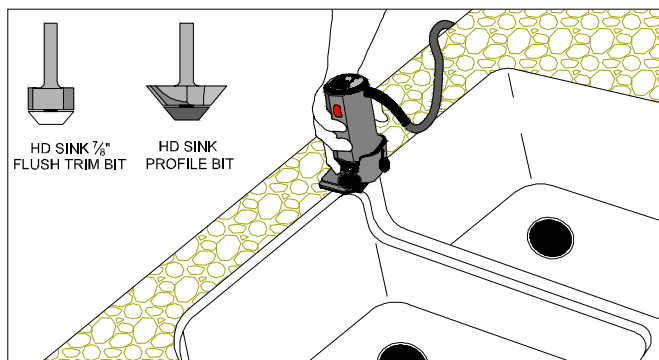

Figure 17D
- Use a laminate trim router with the bottom bearing flush trim bit and flush trim the overhanging laminate. (FIG. 17D)
- Use a laminate trim router with the sink profile bit, profile the edge of the laminate with the angle of the sink. (FIG. 17D)